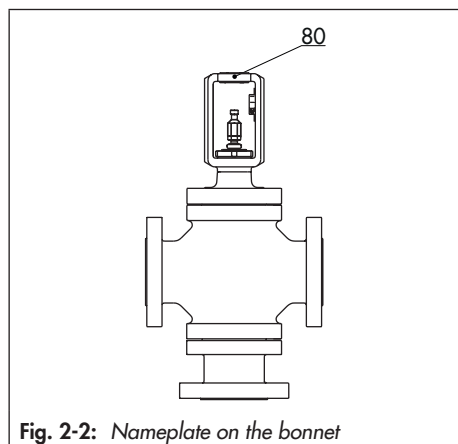

Fig. 2-2: Nameplate on the bonnet
The valve nameplate (80) is affixed to the bonnet (see Fig. 2-2).